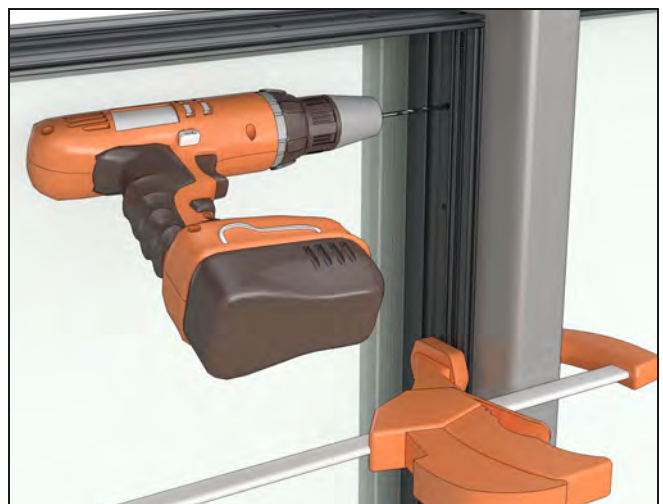

Figure 138
23. Use the pre-drilled assembly holes as a guide to drill into the mull steel with a #23 drill bit. See Figure 138.